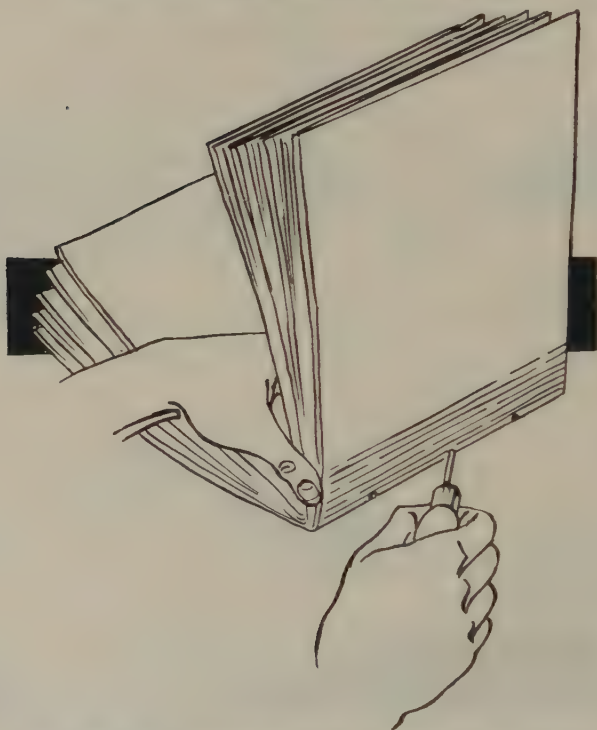

FIG. 230—PUNCHING HOLES WITH AWL FOR STITCHING
10. Using your awl, pierce three holes on back fold to receive stitching and, using your heaviest thread (No. 12 linen), stitch the booklet firmly. (Figs. 230 and 231.)